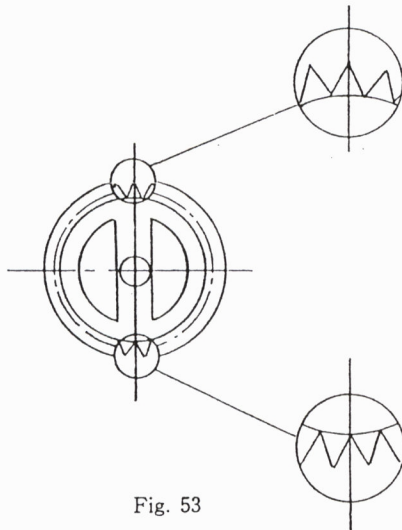

Fig. 53
- ※ If the Sprocket G is not placed in the same way as shown in Fig. 52, reverse upside-down the Sprocket G or replace other Sprocket G see Fig. 53, 54. To set a perforation in right position.